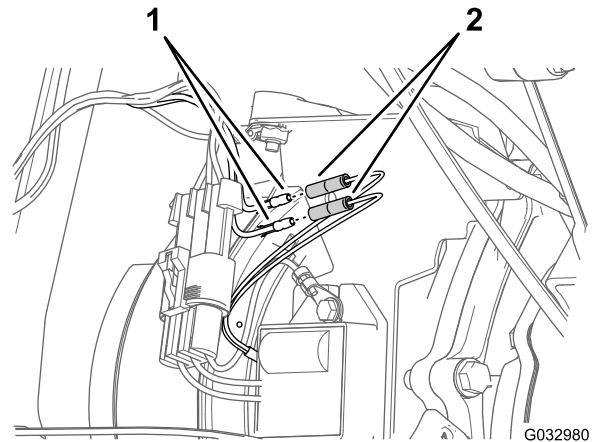

Figure 12
1. Locate the engine-alternator harness at the rear side of the engine case (Figure 12).
2. Connect the 2 bullet connectors of the wire harness to the 2 socket connectors of the engine-alternator harness (Figure 12).